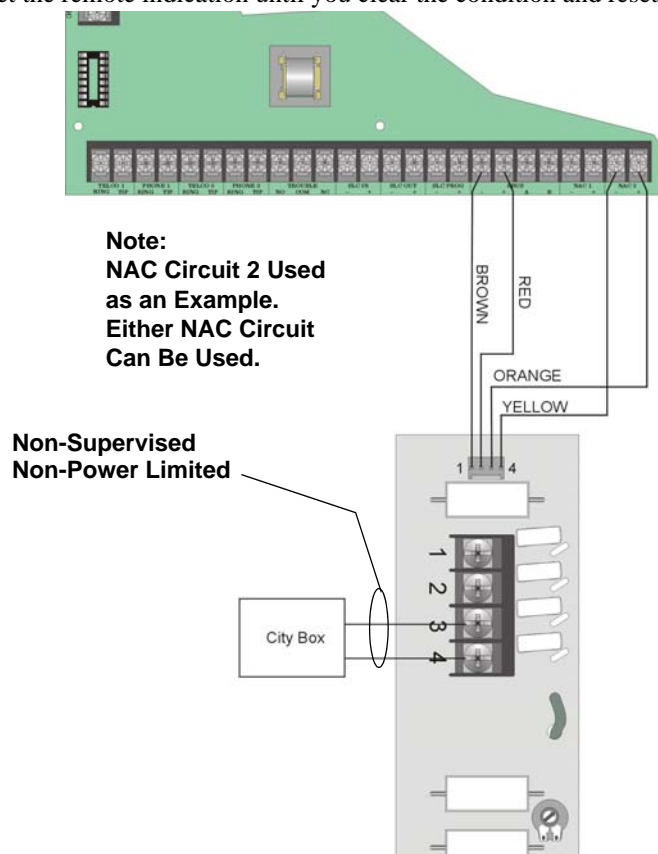

Figure 4-34 City Box Connection
2. Wire the 5220 to the control panel as shown in Figure 4-34. This drawing also shows how to connect the city box coil to terminals 3 and 4 on the 5220. Do not install an EOL resistor in the terminals of the NAC circuit used for this application.